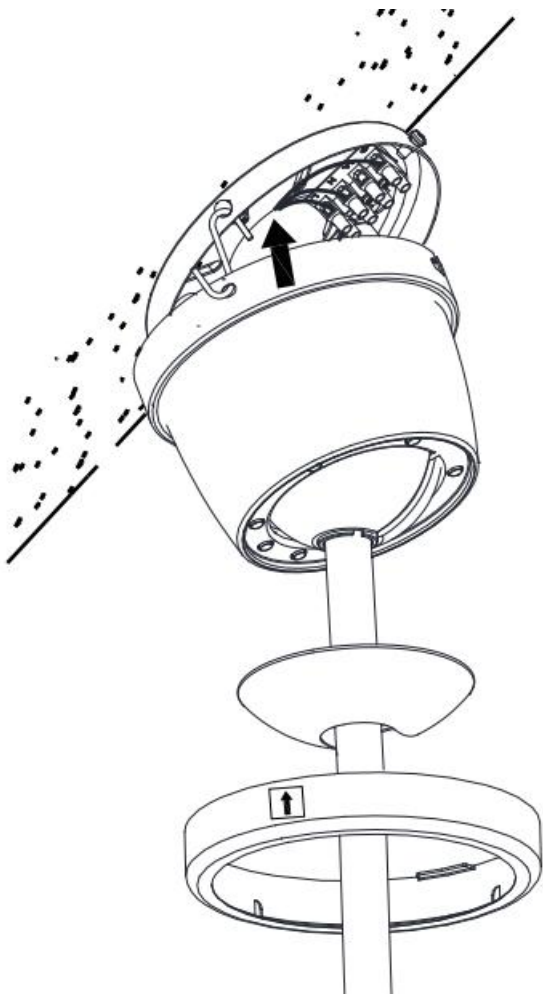

Fig. 17
- Remove the S-hook from the mounting bracket and fan assembly. (Fig.17)
- Lift the angle canopy of the fan assembly up to the mounting bracket and let the L-shape slot on the angle canopy go through the two canopy screws. (Fig.17)